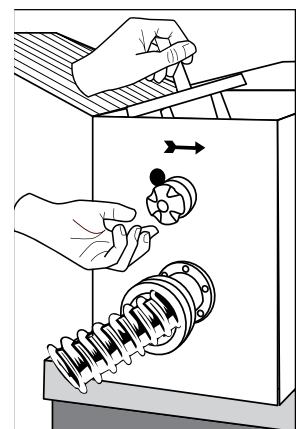

Fig 12
3. Remove both the mixer and auger (fig.12) and wash them.